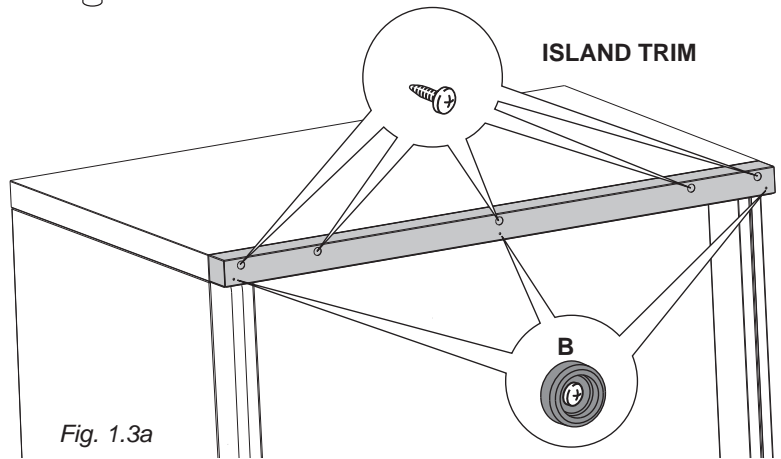

Fig. 1.3a
- If replacing the island trim with the 3" backguard, assemble it by using the same screws/spacers used for fixing the island trim (figs. 1.3a, 1.3b).